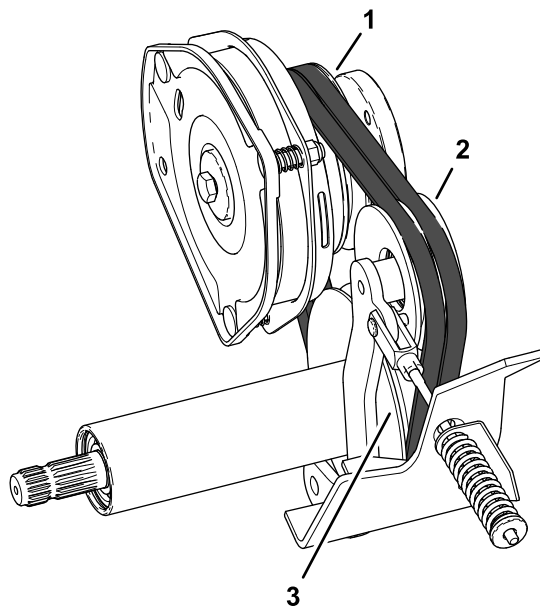

Figure 94
1. Align the be PTO belts over the pulleys (Figure 94).